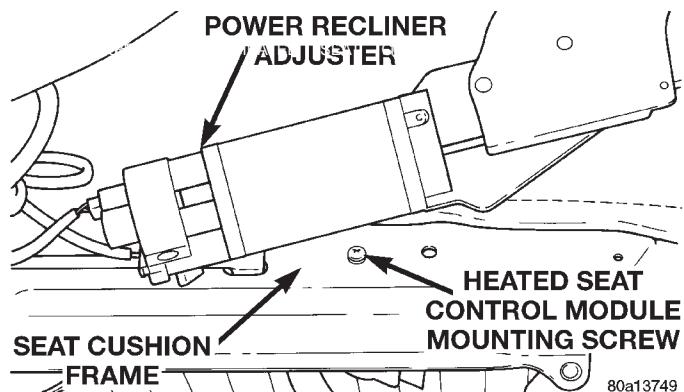

Fig. 2 Heated Seat Control Module Remove/Install
(1) Move the power seat adjuster to its full up and full forward stop positions.
(2) Remove the three screws that secure the seat side shield to the seat cushion frame.
(3) Pull the seat side shield away from the seat far enough so that the power recliner adjuster lower bracket can be seen.
(4) Adjust the seat back with the power recliner switch so that both of the two bolts in the power recliner adjuster lower bracket can be accessed.
(5) Disconnect and isolate the battery negative cable.
(6) Remove the two bolts that secure the power recliner adjuster lower bracket to the seat cushion frame.
(7) Gently pry the power recliner adjuster lower bracket upwards to access the heated seat control module mounting screw (Fig. 2).